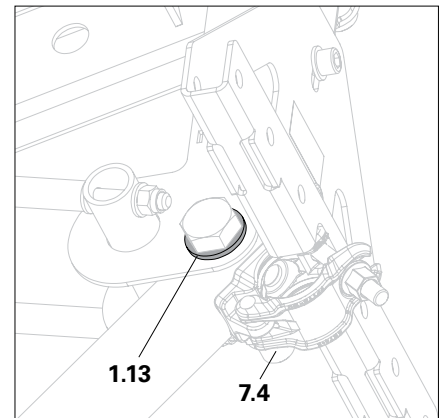

Fig. B2.04
6. Secure the Spindle (1.3) in the bottom hole of the extension piece (7.2) using bolt (7.3) and nut (7.4). Place washer (1.13) under bolt (7.3) and nut (7.4). (Fig. B2.04)